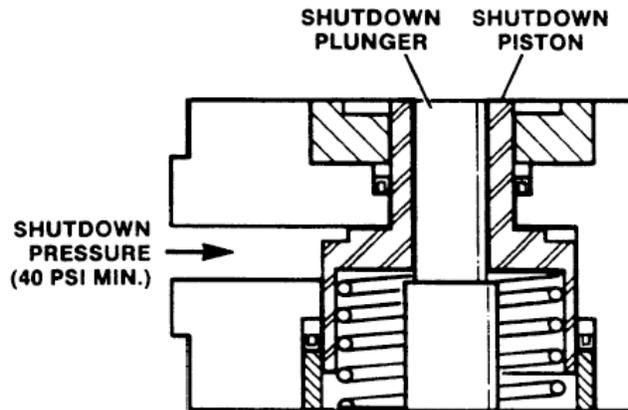

Figure 2-1. Shutdown Cover Plate
| Figure 2-1. Shutdown Cover Plate .....                                     | 2  |
2. Remove two 3/8 inch hex head 1/4-20 screws (1), shutdown cover plate (2), and gasket (3) from the governor cover (Figure 2-1).
- Remove two screws (1) and shutdown cover plate (2) from the governor cover. Do not remove gasket (3) from the cover unless replacement with a new gasket is necessary. Figure 2-1.
- Install gasket (3) cover plate (2) and two screws (1). Torque all 1/4-20 screws to 90 lb-in (10 N·m). Figure 2-1.
5. Cover plate (2) Figure 2-1, is not used with this installation.
3. Install gasket (3), cover plate (2), and two screws (1), Figure 2-1. Torque all 1/4-20 screws to 90 lb-in (10 N·m).
5. Cover plate (2), Figure 2-1, is not used with this installation.